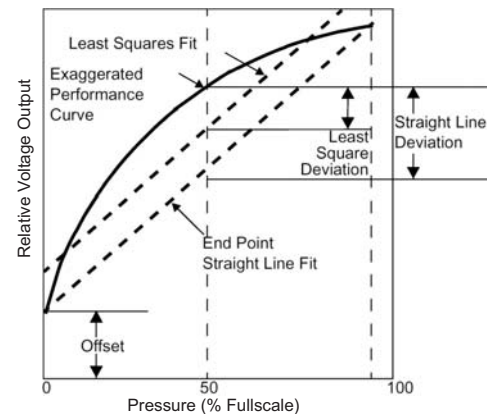

Figure 4. Linearity Specification Comparison
Linearity refers to how well a transducer's output follows the equation: $V_{OUT} = V_{OFF} + \text{sensitivity} \times P$ over the operating pressure range. There are two basic methods for calculating nonlinearity: (1) end point straight line fit (see Figure 4) or (2) a least squares best line fit. While a least squares fit gives the "best case" linearity error (lower numerical value), the calculations required are burdensome.